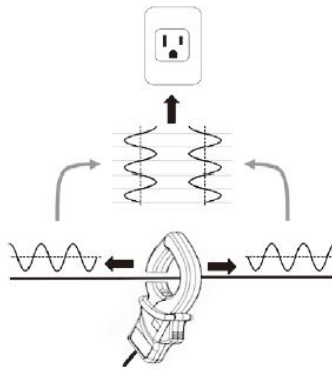
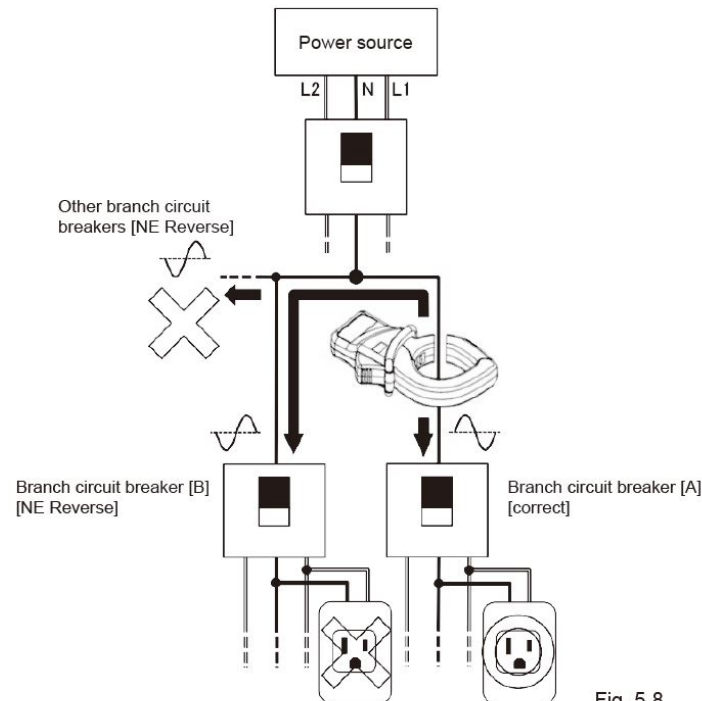
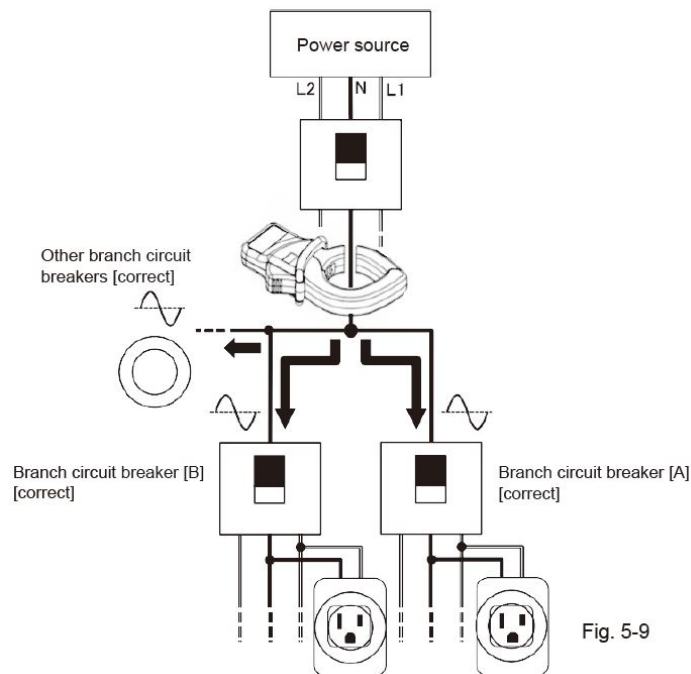

Fig. 5-4
Fig. 5-8
Fig. 5-9
- As shown in Fig. 5-4, the phase of test voltage applied to a neutral wire (N) changes 180-degree depending on the orientation of the test voltage injection clamp.
- Check the wiring diagram before making connections and identify the branch circuit breaker to which the 3P outlet under test is wired, and then connect the test voltage injection clamp close to the outlet to be tested. Depending on the orientation of the test voltage injection clamp, as explained with Fig. 5-4 at the previous clause, KEW 4506 may judge as [NE Reverse] even if the outlet is correctly wired as shown in Fig. 5-8 (outlet wired to branch circuit breaker [B]).
- When the test voltage injection clamp is connected close to the distribution board, KEW 4506 can test the outlet which is wired to branch circuit breaker [B] shown in Fig. 5-8 and judge as “PASS” (correct); however, it is NOT recommended to connect test voltage injection clamp to the position shown in Fig. 5-9.